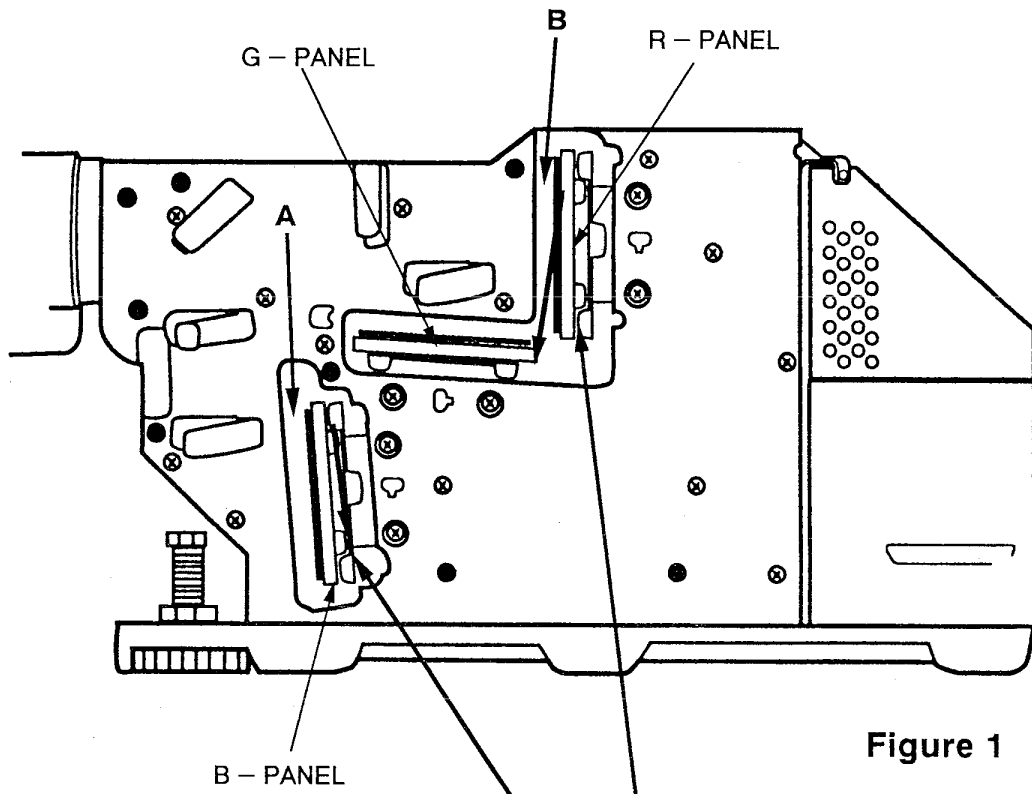

Figure 1
1. Insert paper, etc. in location B shown in Fig.1 to block the R light.